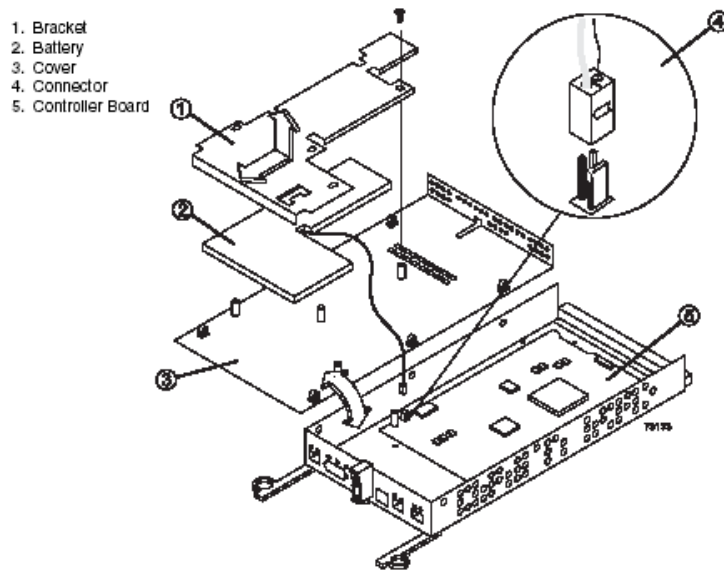

FIGURE 7-12 Replacing the Controller Battery
- b. Remove the single screw securing the battery bracket, slide the bracket sideways to clear the lugs, and lift the bracket up. Figure 7-12 on page 7-27 shows the bracket in relation to the controller.
- a. Connect the battery harness on the replacement battery to the connector on the controller board in the new controller. Figure 7-12 illustrates this connection.